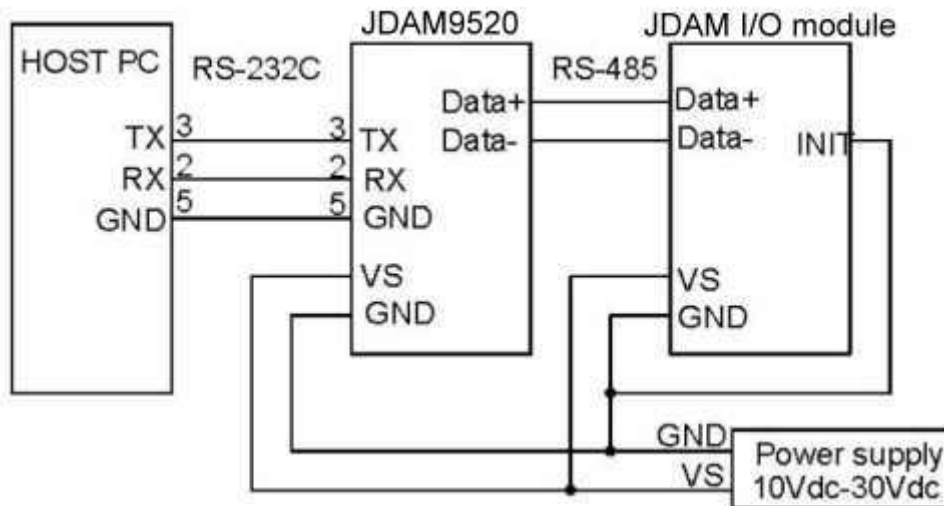

Figure 3.3
2. Connect a brand new JDAM module with the RS-485. Set the module in Default State by shorting the INIT* pin to GND. Refer to Figure 3.3 for detailed wiring.